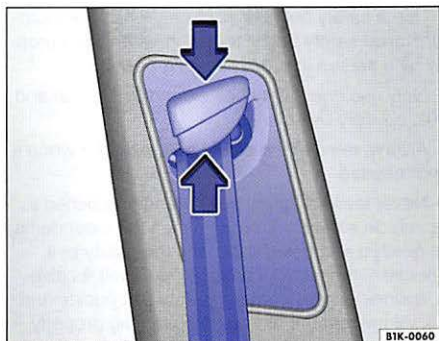

Fig. 55 Next to the front seats: Safety belt height adjuster.
- Pinch the safety belt attachment together as indicated by the arrows and hold ⇒ fig. 55.